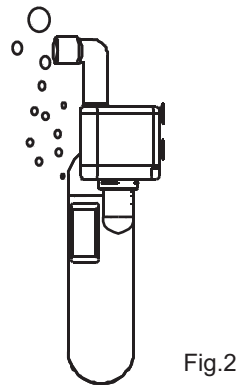

Fig.2
5. Submerge the assembly in your tank for 30 seconds to allow air bubbles to escape. Extra bubbles provide unwanted buoyancy. Refer to Fig. 2